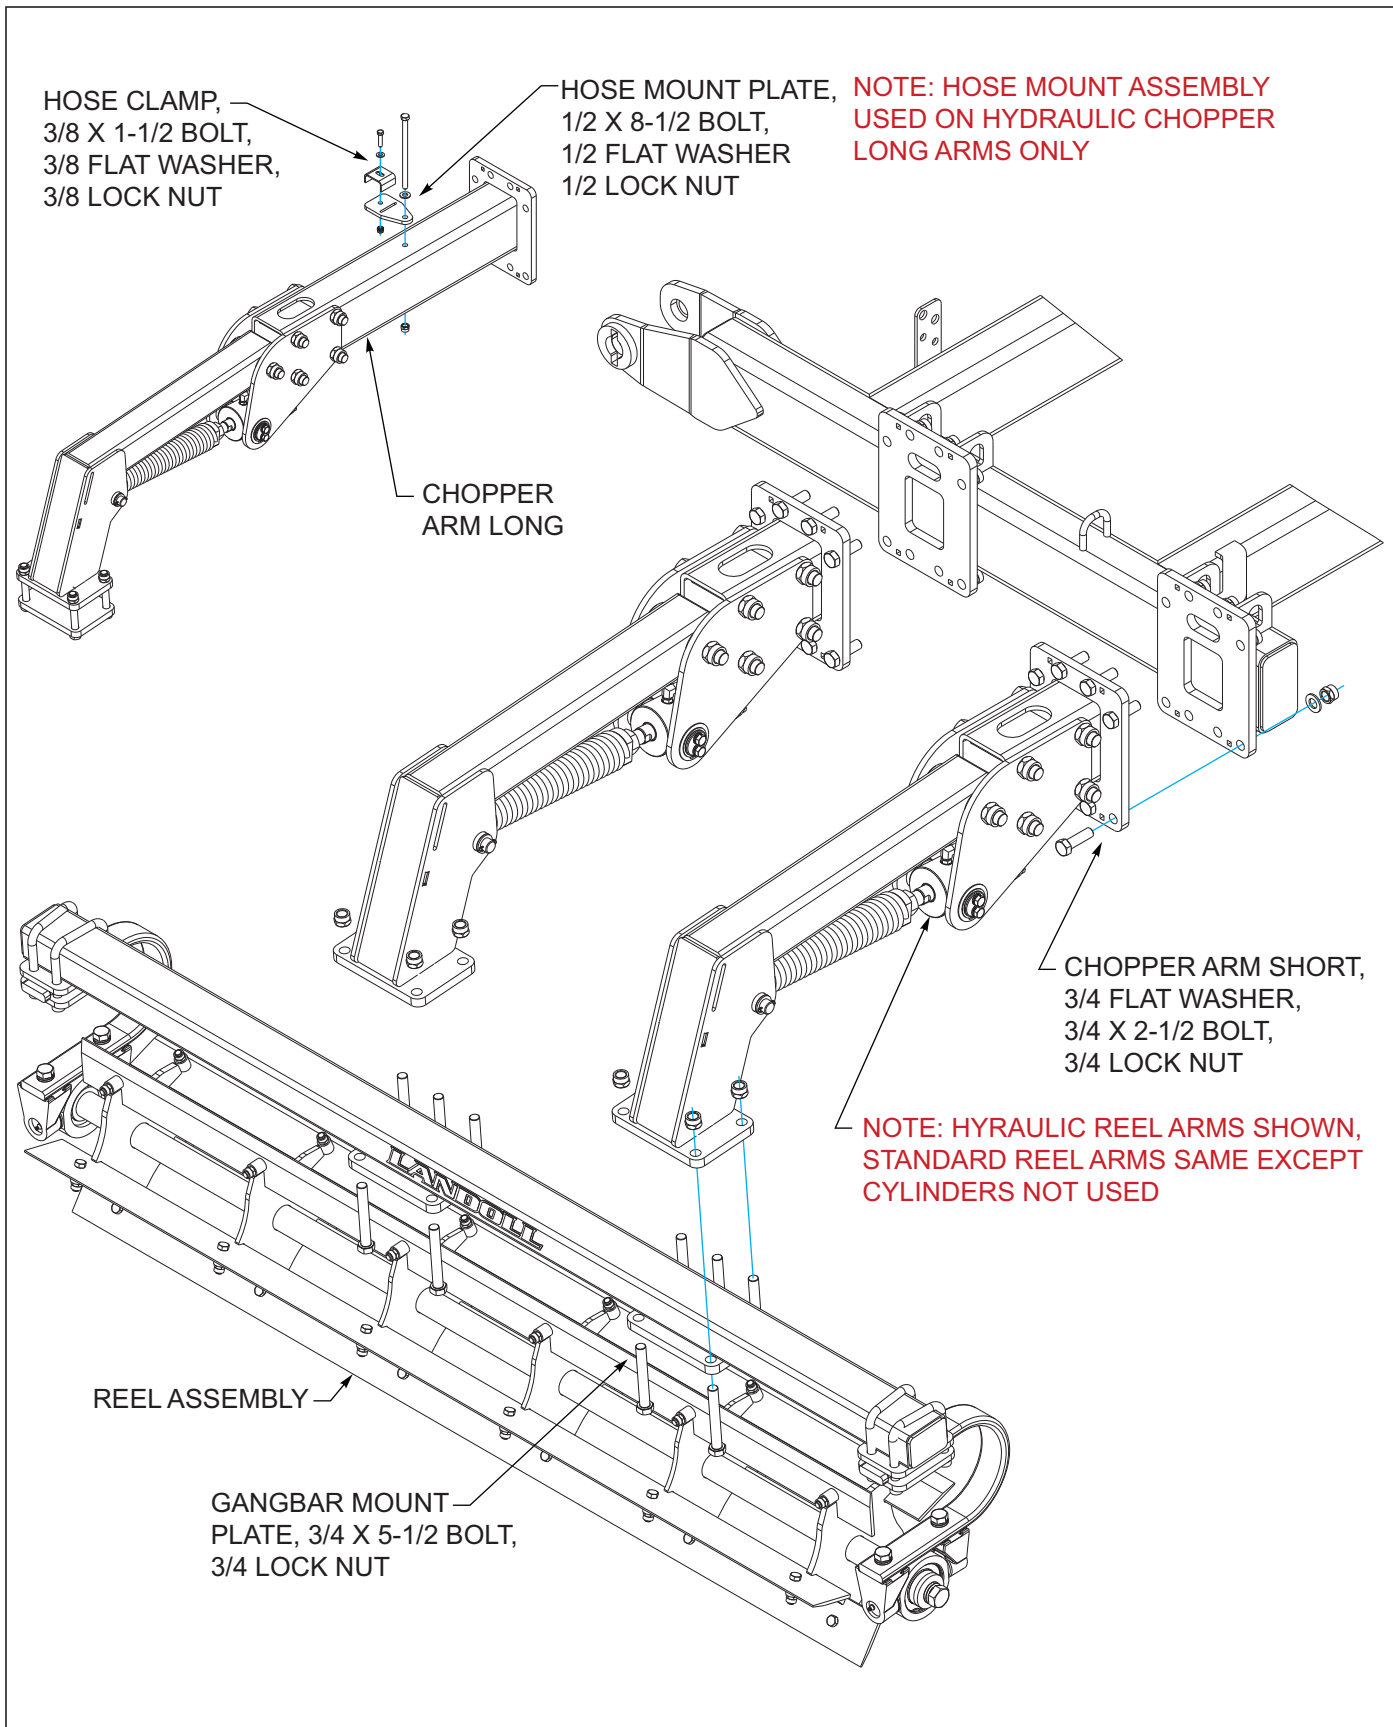

Figure 3-34: Standard or Hydraulic Chopper Installation (Option)
1. Attach the chopper arm long assemblies on rear of center frame and short arm assemblies to plates on rear of wing frames with 3/4 x 2-1/2 bolts, 3/4 flat washers 3/4 lock nuts See Figures 3-34.
3. Attach the reel assemblies, secure with the u-bolts, gangbar mount plates, nuts that were just removed as shown See Figures 3-34.